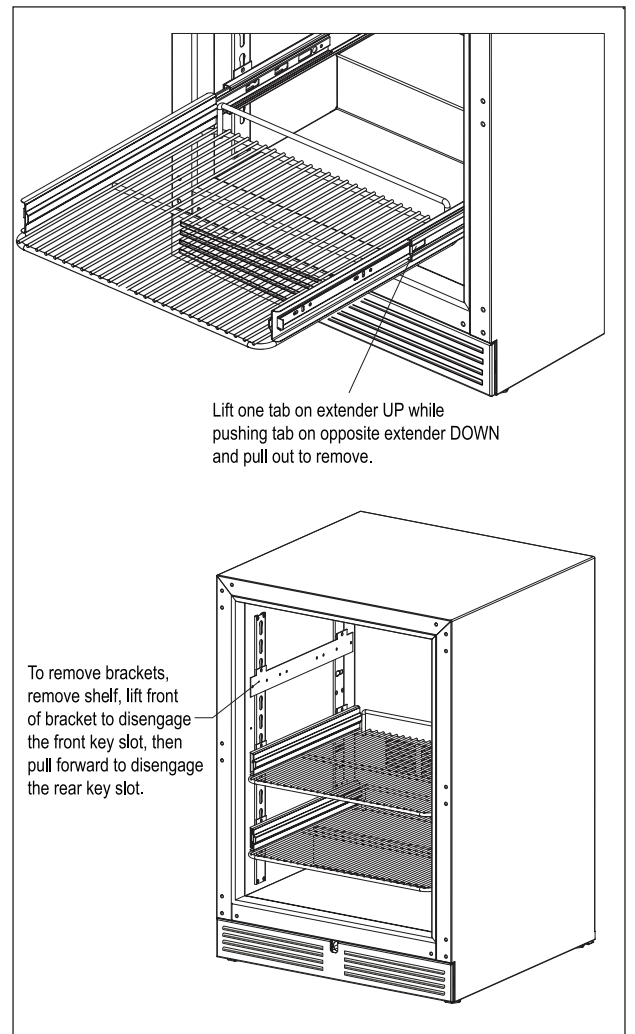

Figure 4. Adjusting Shelf Position
- 1). Pull the shelf out to its farthest position. Locate the tabs in the middle of both extends, then press tabs and pull shelf out of the unit. See Figure 4